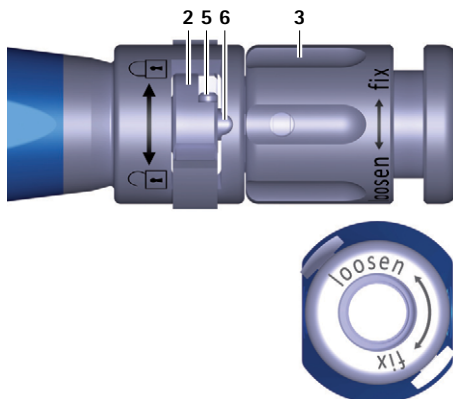

Fig. 1 Close-up view of the insertion instrument, switch open
- ▶ Turn the rotary nut **3** on the insertion instrument **A** counterclockwise ("loosen" direction) to push the rod **6** forward, see Fig. 1.
- Turn the switch **2** to the left (↶ direction), see Fig. 1.
- ▶ Check the position for coupling the insertion instrument **A**, see Fig. 1.
- ▶ Turn the switch **2** to the left (↻ direction), see Fig. 1.
- ▶ Turn the rotary nut **3** counterclockwise ("loosen" direction) to push the rod **6** forward, see Fig. 1.